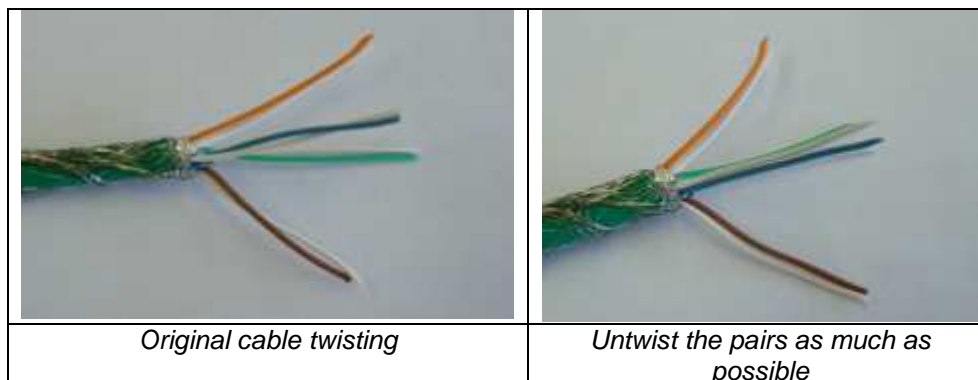

Figure 4
1. While firmly holding the cable jacket next to the stripped end, untwist the pairs as much as possible as shown in figure 4